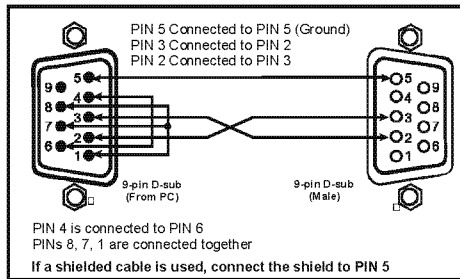

Figure 3: Connecting a PC without using a Null-modem Adapter
- Connect the RS-232 9-pin D-sub port on your PC to the RS-232 9-pin D-sub rear panel port on the **VM-24H**, as Figure 3 illustrates